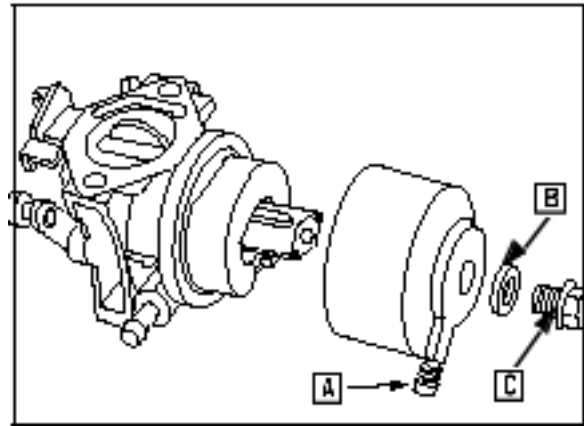

Fig. 92
Position bowl drain as shown, Fig. 92.
Install float bowl (A), washer (B), and mounting screw (C) Fig. 92), to carburetor.